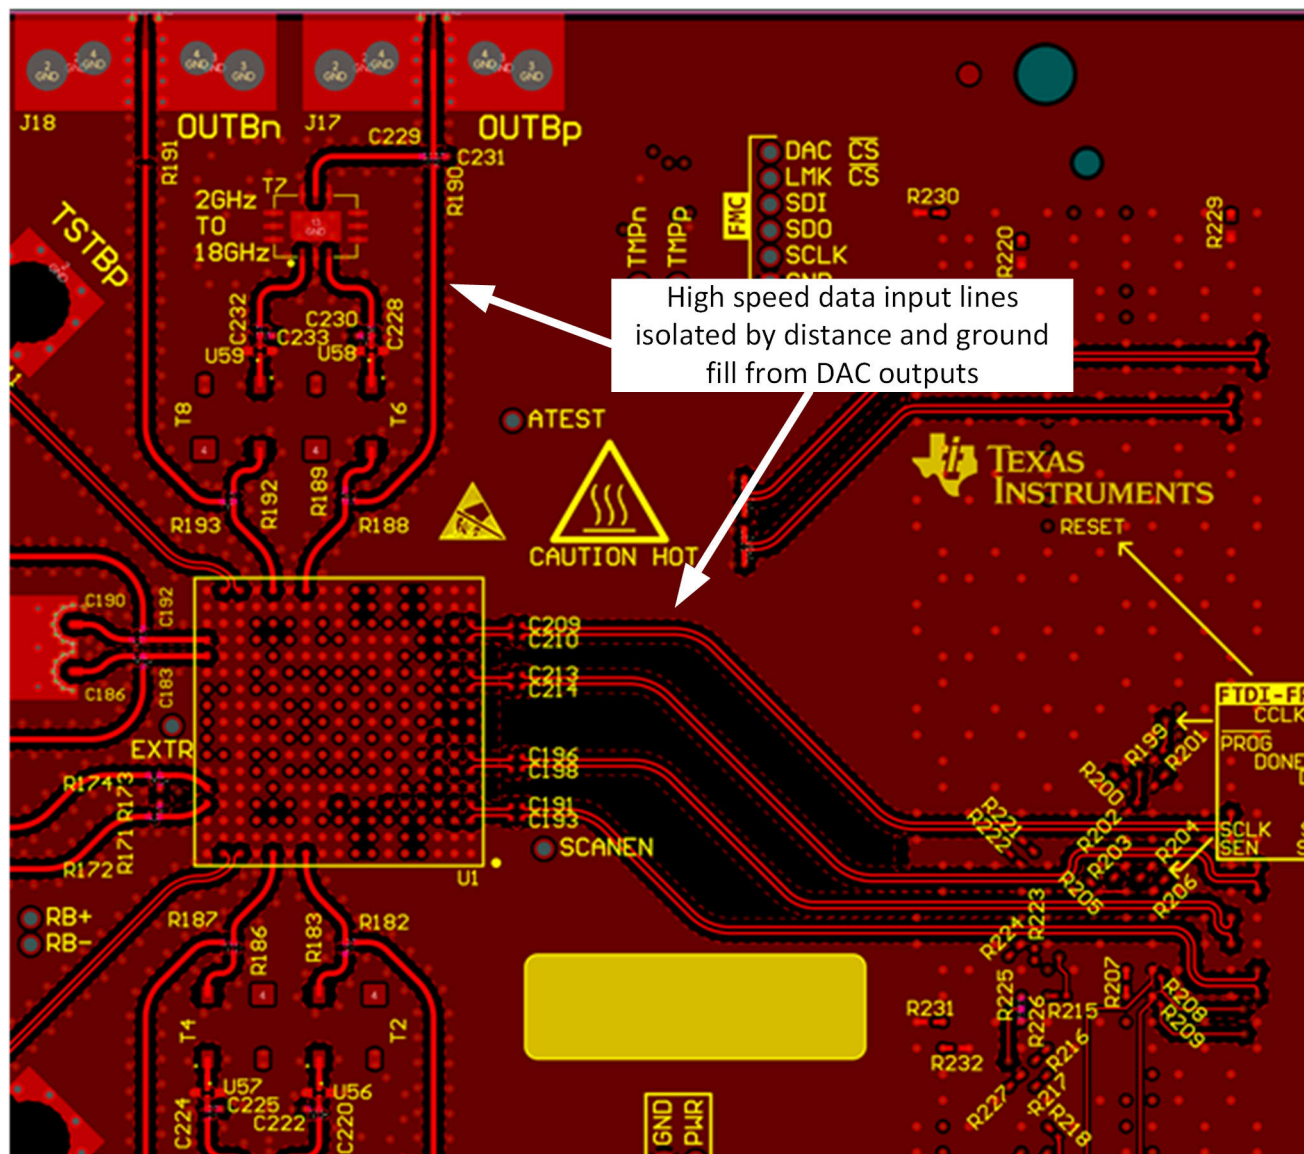

Figure 9-13. Serdes Top Layer Routing with Ground Fill Isolation
9. Pay particular attention to potential coupling between JESD204x data input routing and the analog output routing. Switching noise from the JESD204x inputs can couple into the analog output traces and show up as wideband noise due to the high bandwidth of the DAC. Route the Serdes JESD204x data inputs on a separate layer, if possible, from the DAC output traces to avoid noise coupling, see Figure 9-13 and Figure 9-14 as examples.